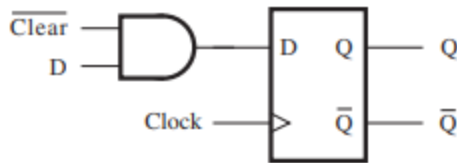

Fig.5.6: Schematic of Verilog module “flipflopsynchronous”
- This code generates a cascaded connection between flip-flops, which implements the shift register depicted in Fig 5.6.